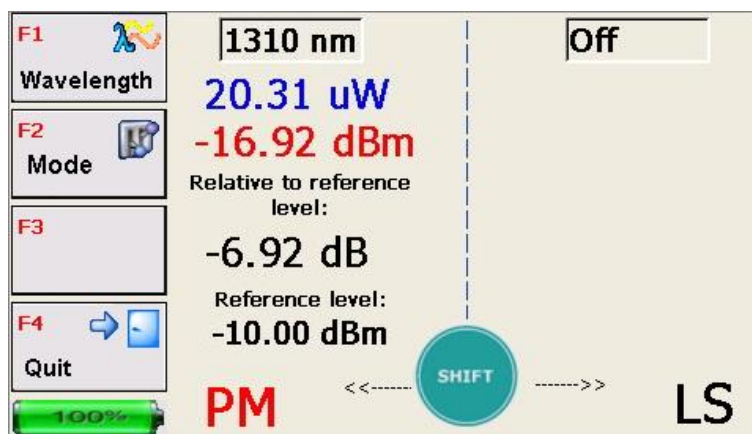

Figure 8.4
8.2.7 The basic level being chosen, the window shown in **Figure 8.4** will appear on the screen.
In this window, in addition to the values of the power measured, the basic level value (in dBm) and the change of the current power level with respect to the basic level (in dB) are indicated. The number -6,92 dB in **Figure 8.4**, in this case, means that the current optical power value is 6,92 dB **less** than the basic value – 10,00 dBm, so, the introduced attenuation in the optical line equals to 6,92 dB.